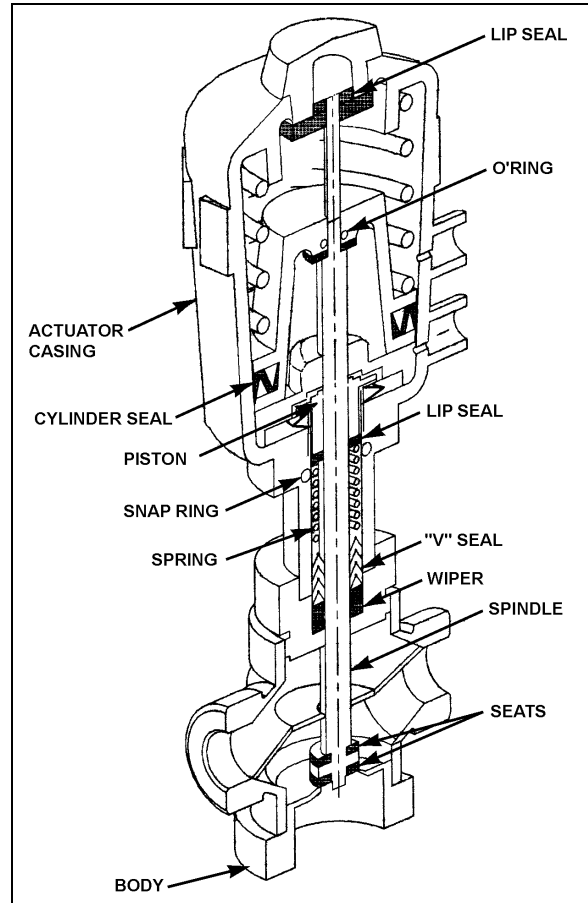

FIGURE 47: CENTRAL PNEUMATIC WATER VALVE 22330
2. The water valve need not be removed from the line. Unscrew nipple, the actuator casing, tube, spindle and closure member can be removed (Figure 47).
2. Tighten the nipple in place in the body cavity as per figure 47. Fasten pilot solenoid valve to the pneumatic water valve. Reconnect air supply pressure and electrical current to the pilot solenoid valve.